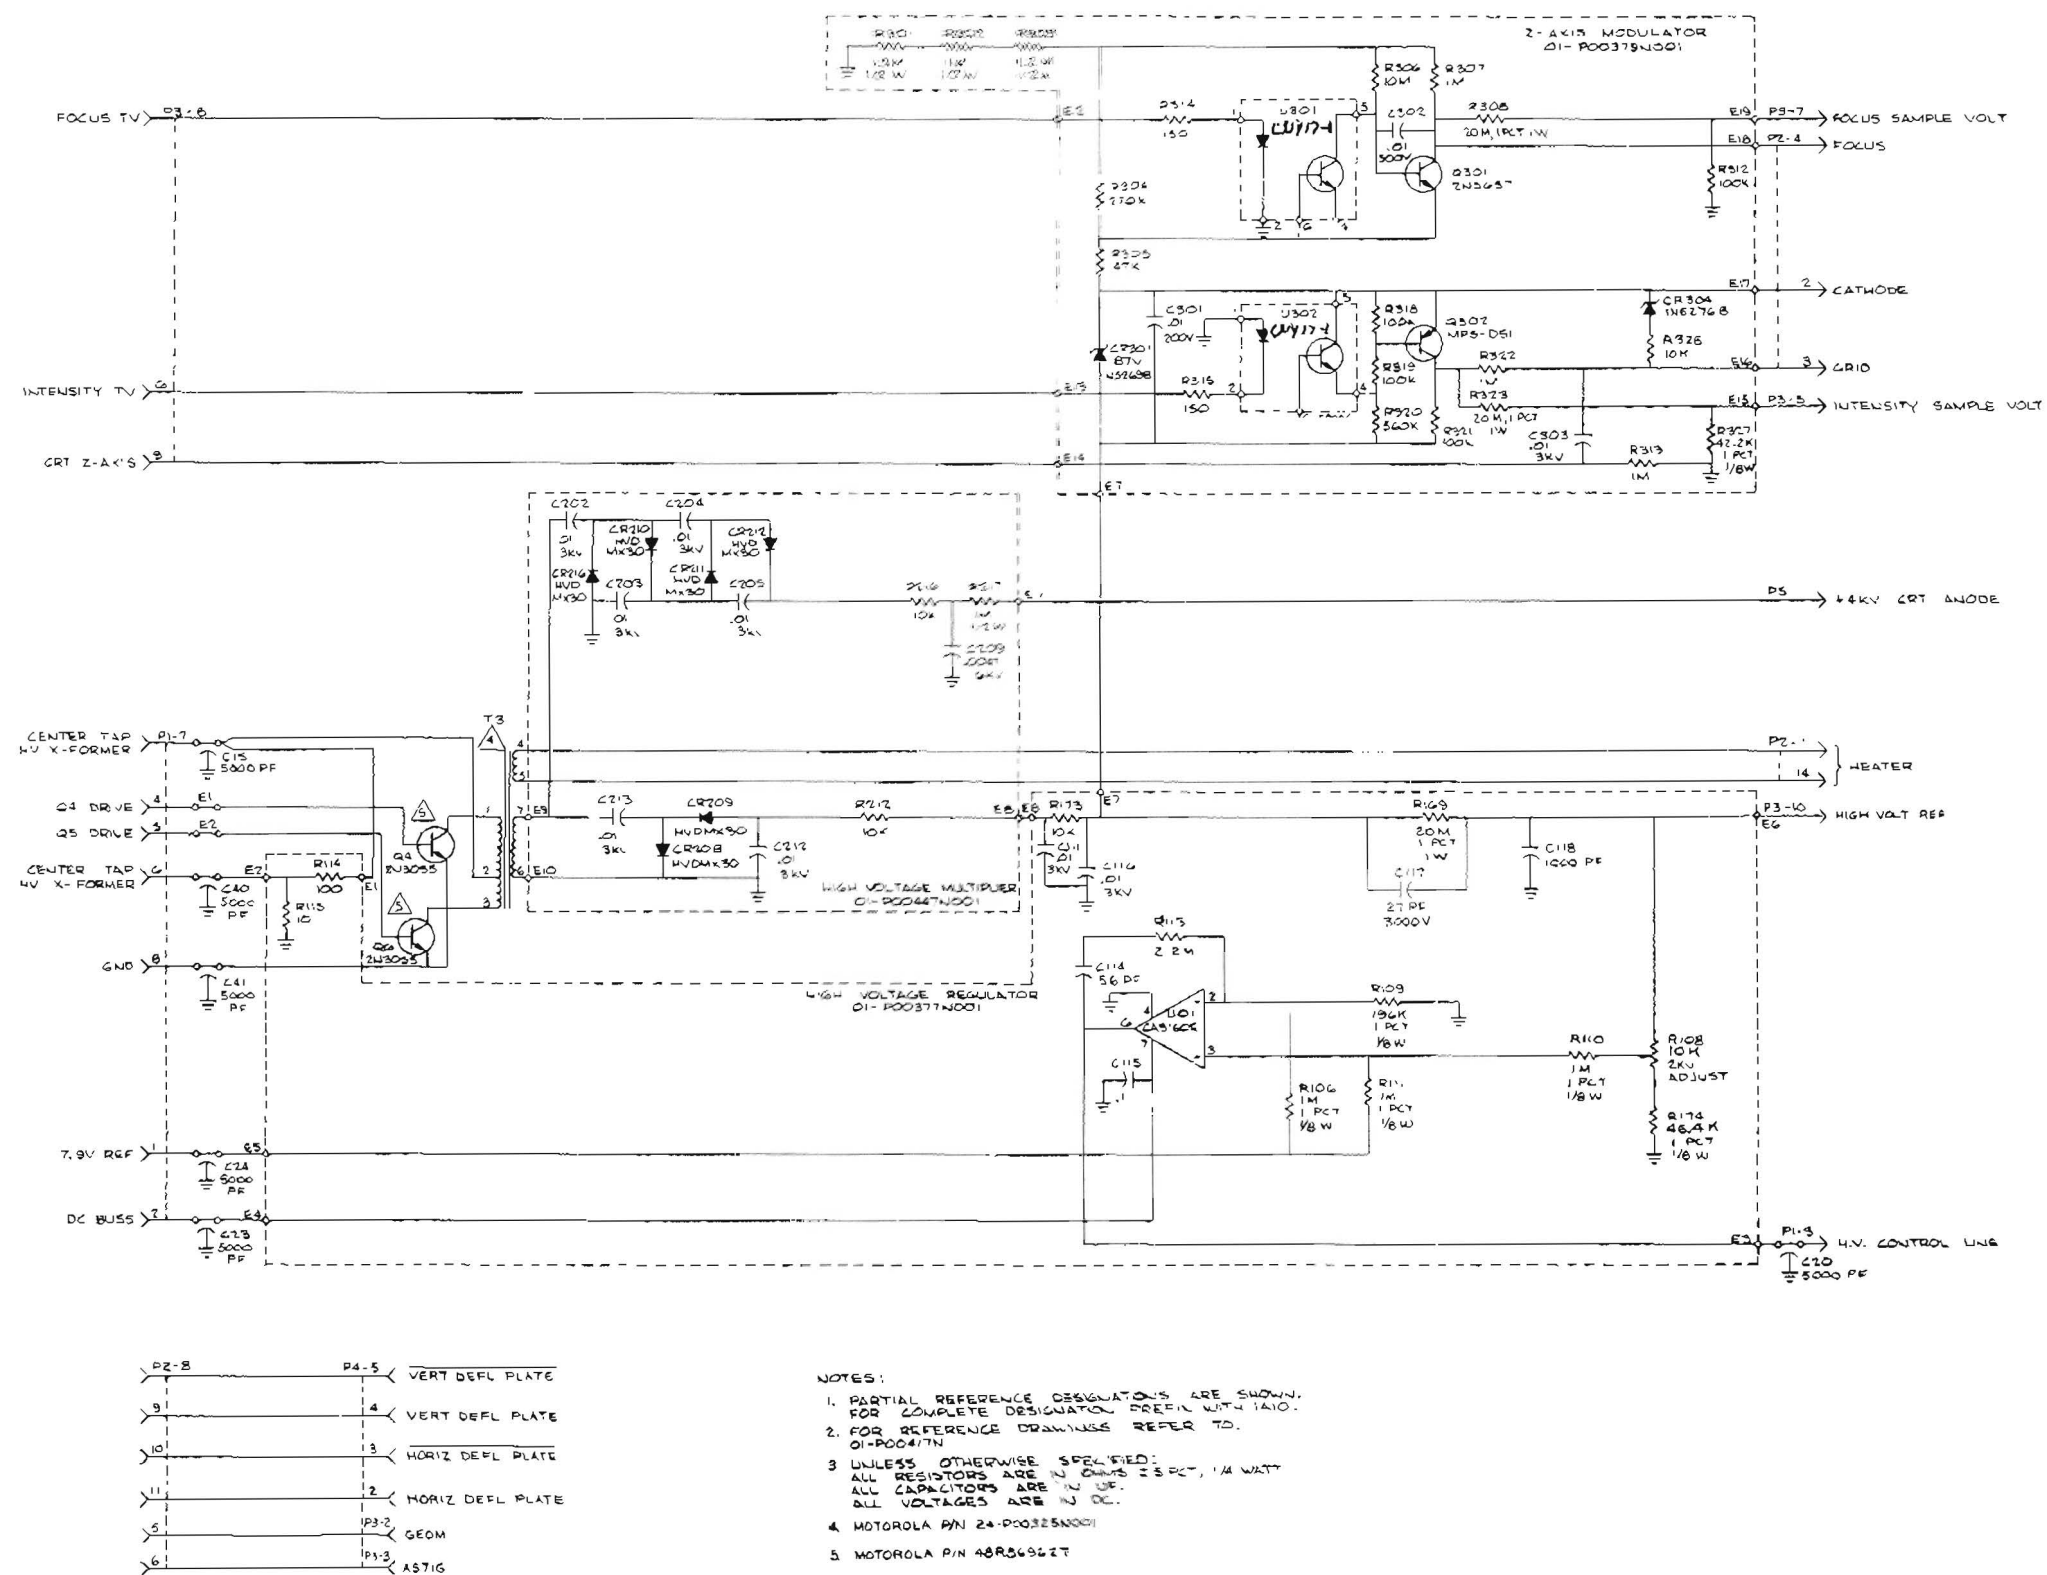

Figure 16-2. High Voltage Power Supply A10
**16-1. General.** Bias and drive voltages for the CRT are supplied by the High Voltage Supply. The supply converts a nominal 8 VDC input level to output voltages of +4 kV and -2 kV. Circuits for low voltage control of the intensity and focus grids is also provided. A block diagram of the High Voltage Power Supply is shown in figure 16-1 and its schematic in figure 16-2.